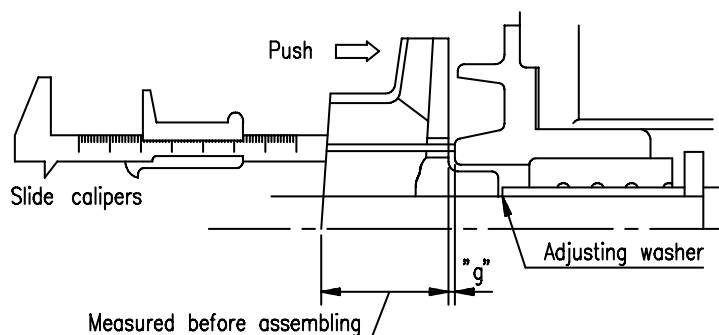

Fig. 7-22. Axial Gap of Impeller
- (c) Adjustment of axial gap of impeller (Pump in Fig. 7-20. does not need the adjustment ) Adjust the gap "g" shown in Fig. 7-22. with adjusting washer to 0.5 ~ 0.9mm. Measurement of gap "g" shall be done as shown below.